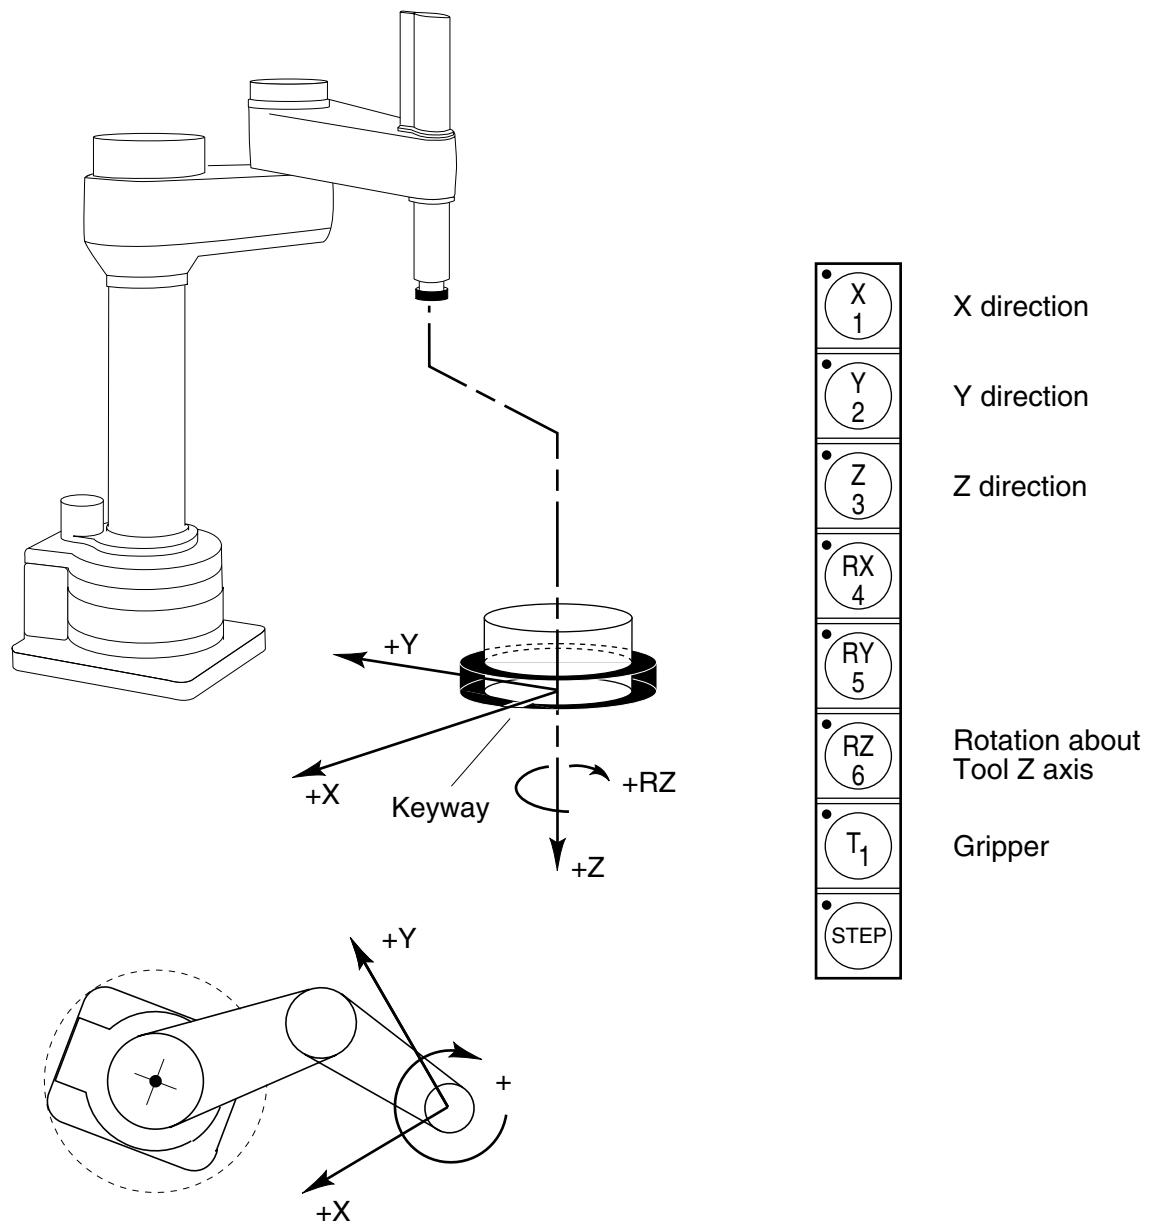
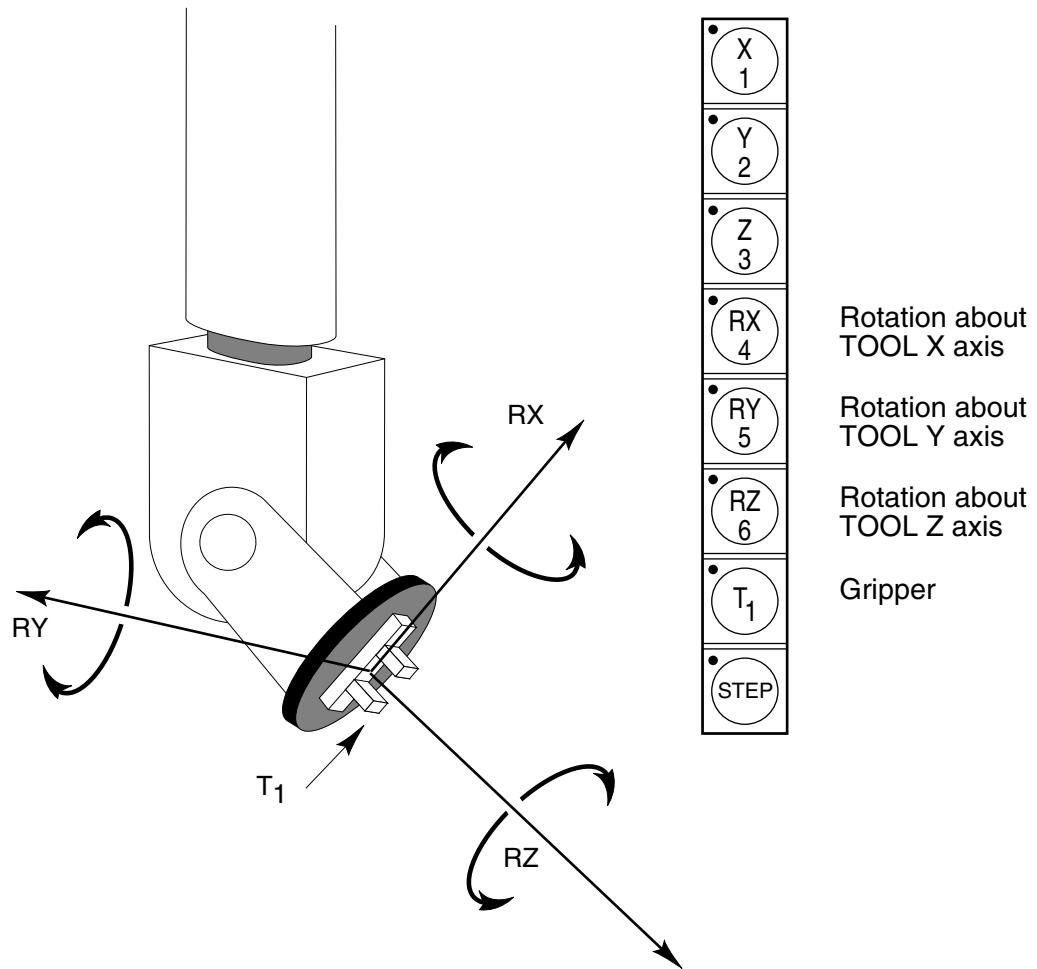

Figure C-15. TOOL State (Four-Axis SCARA)
Figure C-16. TOOL State (Six-Axis Robot)
In a four-axis robot, positive rotation of the gripper (RZ) is clockwise as viewed from above. Figure C-15 on page 146 shows the tool coordinate system for a four-axis SCARA robot.
Figure C-16 on page 147 shows the Tool coordinate system on a six-axis robot.
NOTE: Figure C-15 and Figure C-16 are drawn with the assumption that the TOOL transformation is set to NULL (all values are 0). If a TOOL transformation is in effect, the Tool coordinate system will be offset and rotated by the value of the TOOL transformation. Any motion in Tool state will now be relative to the offset coordinate system, and not the center of the tool flange. See the V+ Language Reference Guide for details on TOOL transformations.